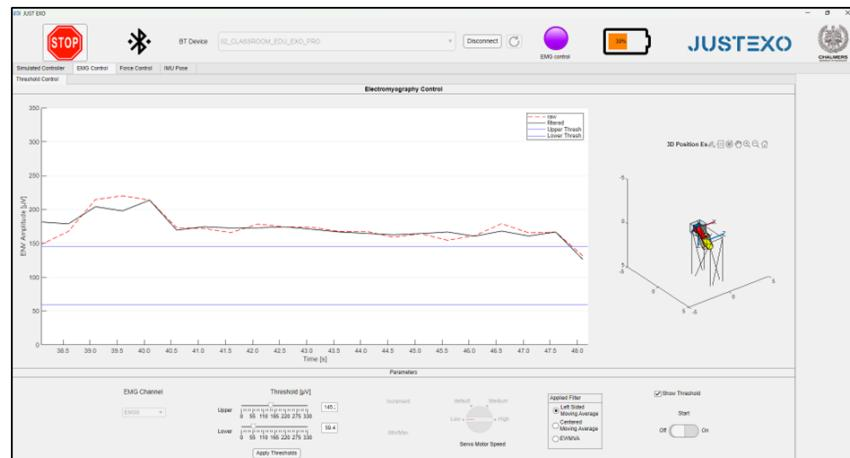

Figure 19: Adjusting the threshold in the GUI.
8. Click on the start button. 9. If you can see the curve changing when flexing your muscle, but the Classroom Exo does not move, then you can stop running and adjust the threshold. This is done by dragging the mark along the bar with numbers below the Threshold title at the bottom of the GUI as in Figure 19. You can change both the upper and lower thresholds.